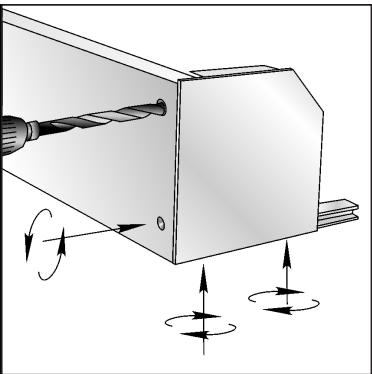

Fig. 19
- mark and drill four $\varnothing 4,2+0,3$ holes for rivets in the shutter box and in the end cap (Fig. 19);